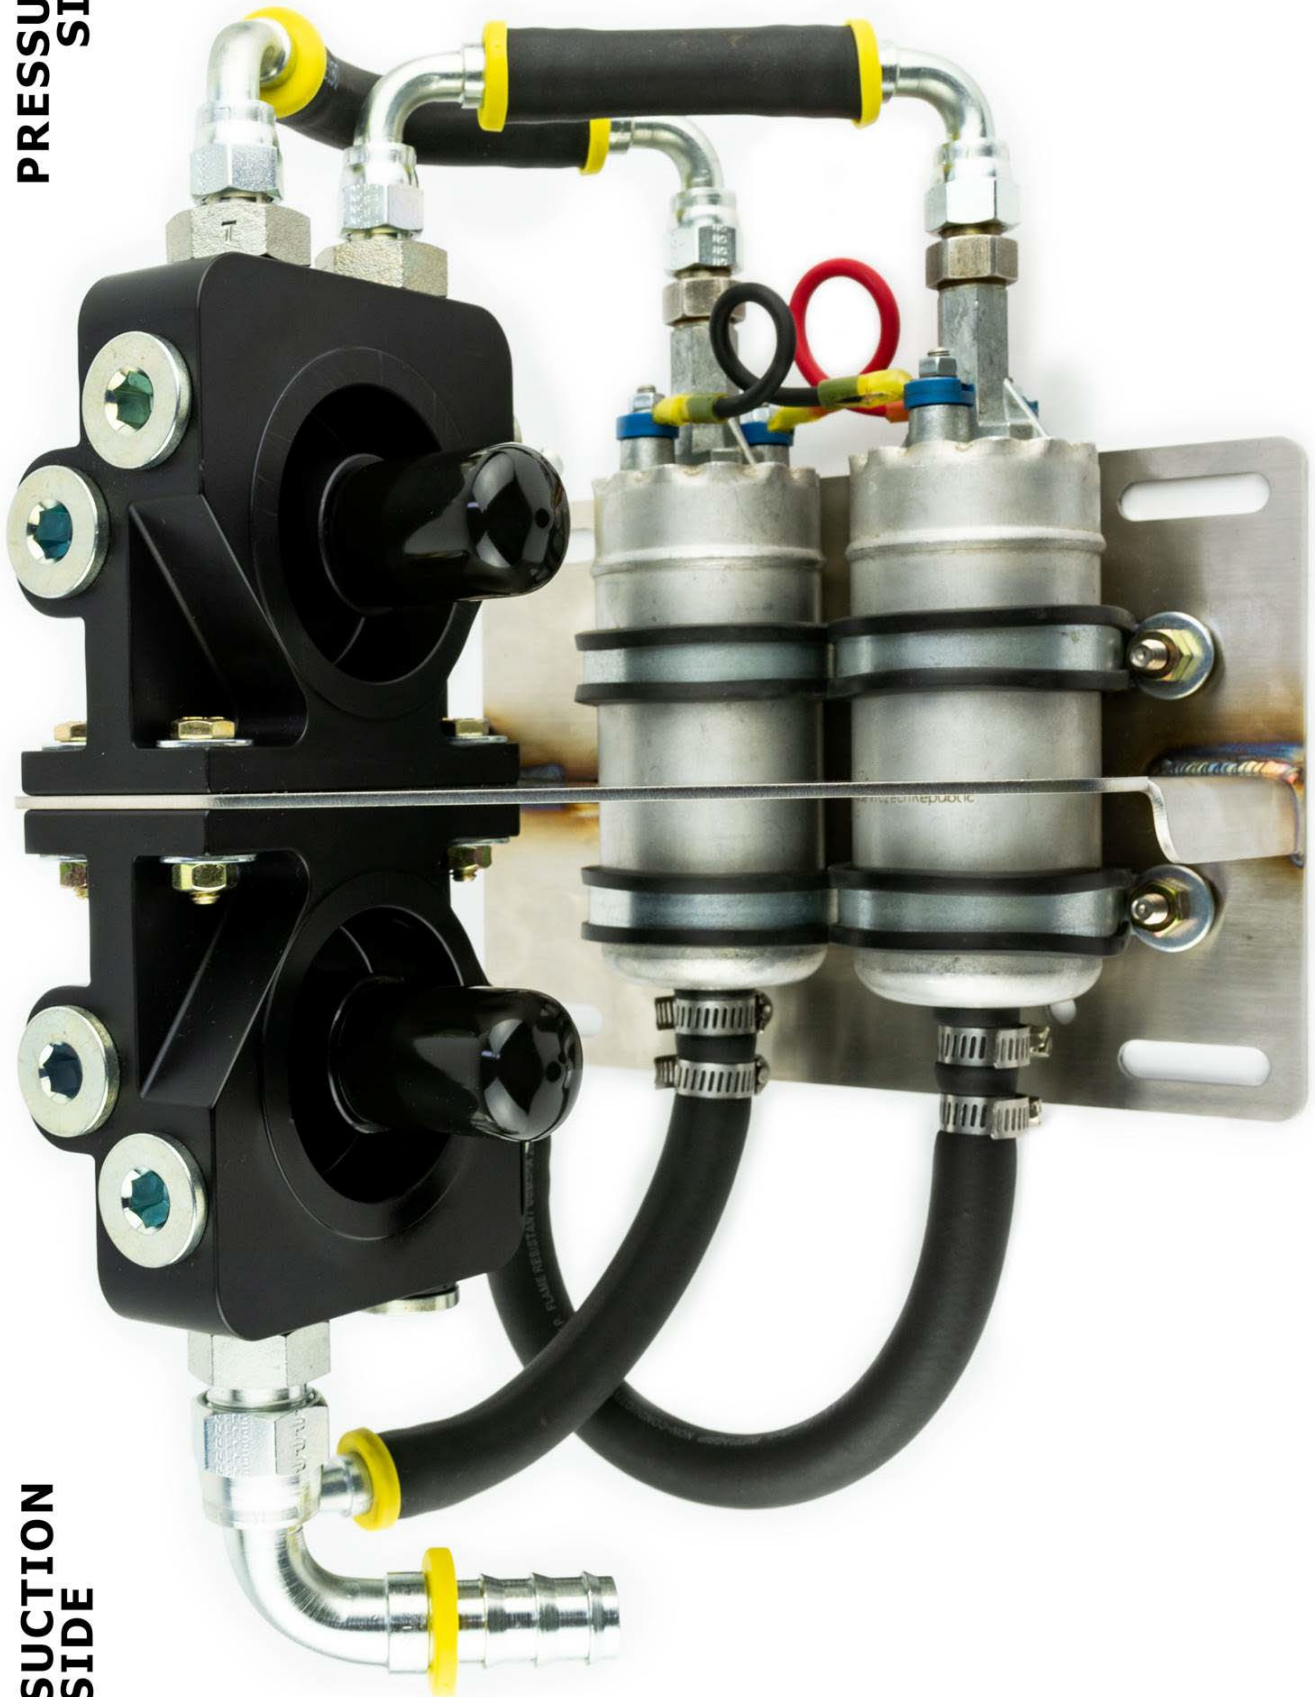

Figure 2 – Pump Inlet on Left – Pump Outlet on Right – “Inside the Frame” Orientation
6. Using a ruler or straight-edge, adjust the position of the fuel pumps so that the ends of the DD-10MM-06MJ outlet adapters are aligned with the ends of the 10MB-06MJ fittings in the IN ports of the filter head (see Figure 2).
11. Using Figures 2 & 3 for guidance, install another 06NC-06FJX90 3/8" 90° hose end into the end of the remaining 3/8" hose and loosely connect it to one of the PRE FILTER OUTLET fittings. Route the hose to the corresponding PUMP INLET NIPPLE and determine where to cut it off. Install (2) WGN-06SS hose clamps over the hose and then firmly push the hose onto the pump nipple, all the way up against the body of the pump. Tighten one worm gear clamp on either side of the "ridge" in the pump nipple, then tighten the 90° hose end at the fuel filter fitting.
12. Repeat step 11 for the remaining PRE FILTER OUTLET to fuel pump inlet hose, using one more 06NC-06FJX90 3/8" 90° hose end and (2) more WGN-06SS hose clamps.